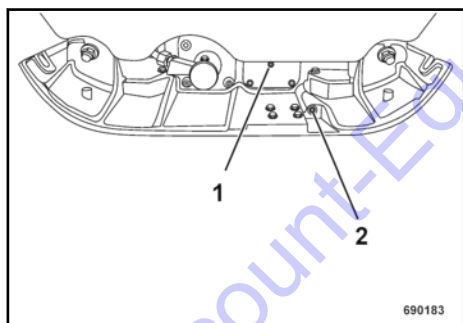

Fig. 62
Clean oil drain (2) ↪ Fig. 62 and bleeding screw (1) and assemble both screws with sealing compound (e.g. BOMAG part-no. 00970016).